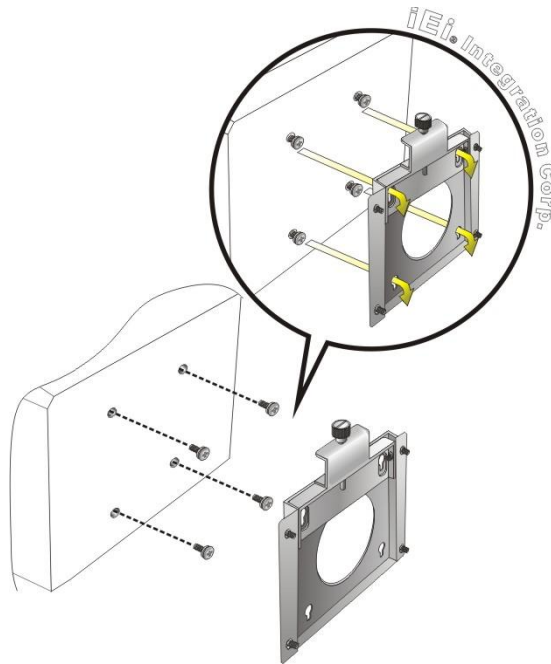

Figure 3-7: Chassis Support Screws
- Step 6:** Insert the four monitor mounting screws provided in the wall mount kit into the four screw holes on the rear panel of the panel PC and tighten until the screw shank is secured against the rear panel (**Figure 3-7**).